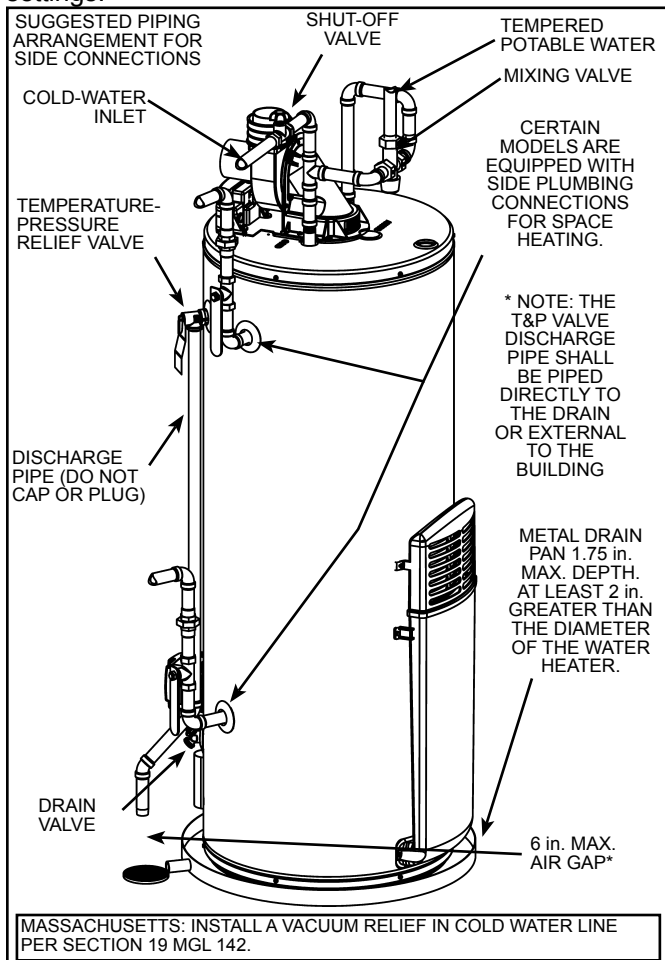
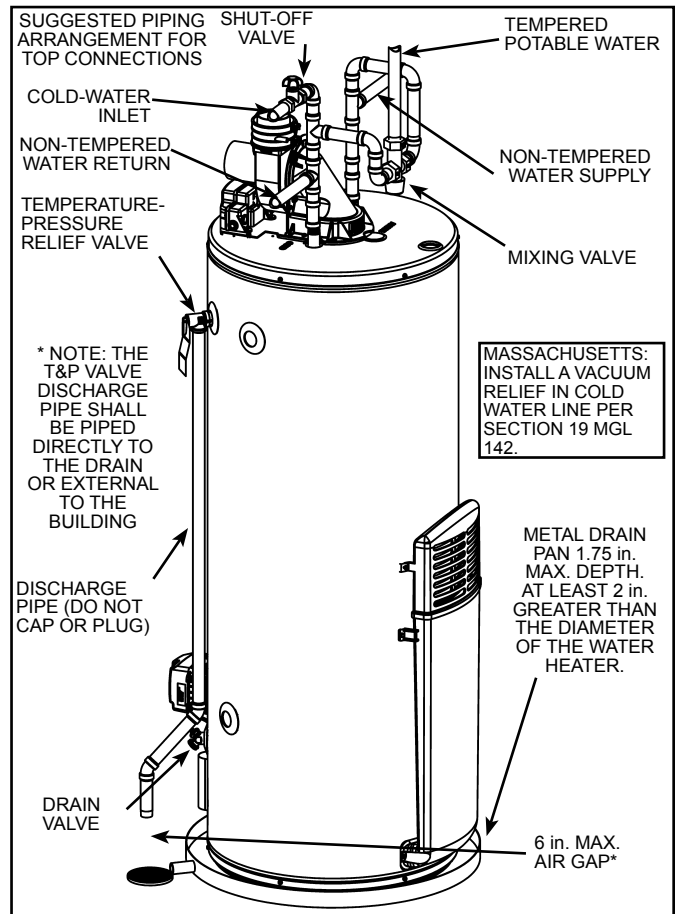

Figure 8
Figure 9
Models equipped with Combo Heating capabilities are shipped with the two side plumbing taps **OPEN** (item 8 and item 13 in Figure 1 and see also Figure 8 & Figure 28). If the heater is to be operated without using the side taps these openings **must be plugged** with the two pipe plugs supplied with the heaters.
In addition to using lowest possible temperature setting that satisfies demand of application, a mixing valve should be installed at water heater (see Figure 8 & Figure 9) or at hot-water taps to further reduce system water temperature. Mixing valves are available at plumbing supply stores. Consult a Qualified Installer or Service Agency. Follow mixing valve manufacturer’s instructions for installation of the valves. Before changing the factory setting on the thermostat, read the “Operating The Temperature Control System” section in this manual.